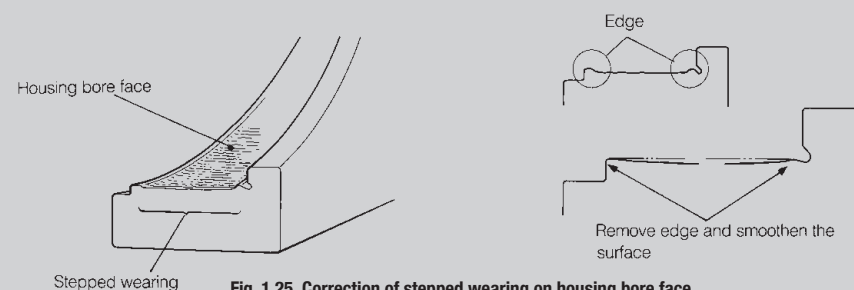

Fig. 1.25 Correction of stepped wearing on housing bore face
- When there is stepped wearing (Fig. 1.25)